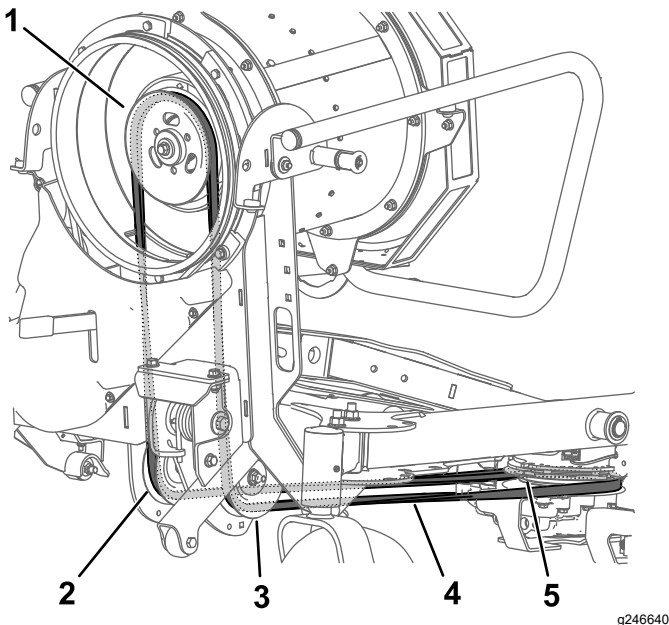

Figure 44
6. Remove the belt from the fan pulley (Figure 44).
7. Route the belt down through the drive adapter assembly, around the idler pulleys, and around the clutch pulley (Figure 44). Ensure that the belt is seated properly in the pulley grooves.